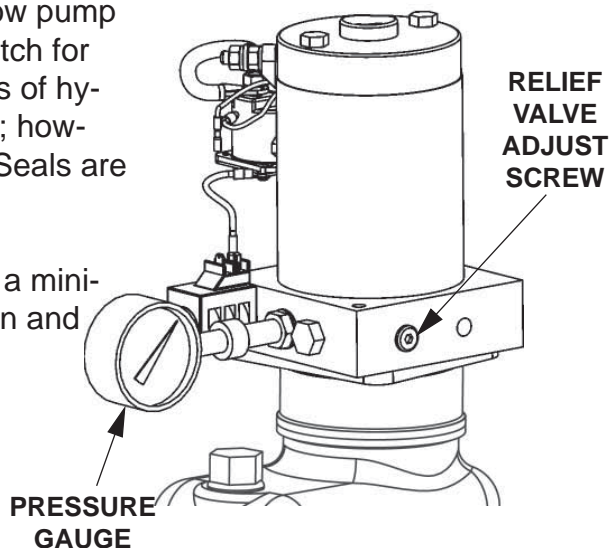

FIG. 76-2
3. With Platform on the ground, remove the pressure hose and fitting from the Pump and replace it with a 0-3000 PSI Pressure Gauge. Hold the switch in the "UP" position. Adjust the Relief Valve on the side of the Pump until the gauge shows 2800 to 3000 PSI (**FIG. 76-2**). Remove gauge and re-install pressure hose.